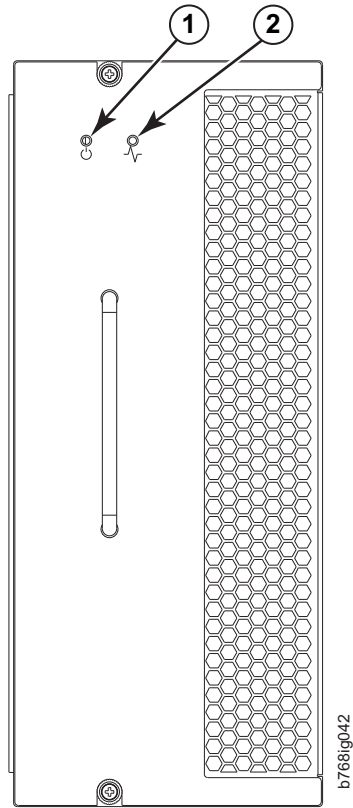

Figure 21. Blower assembly LEDs
1. Check the LED indicators on the blower assembly (see Figure 21 on page 63). The LED patterns may temporarily change during POST and other diagnostic tests; for information about how to interpret the LED patterns, see Table 10 on page 63. The system has three blower assembly modules. Be sure to check each module.